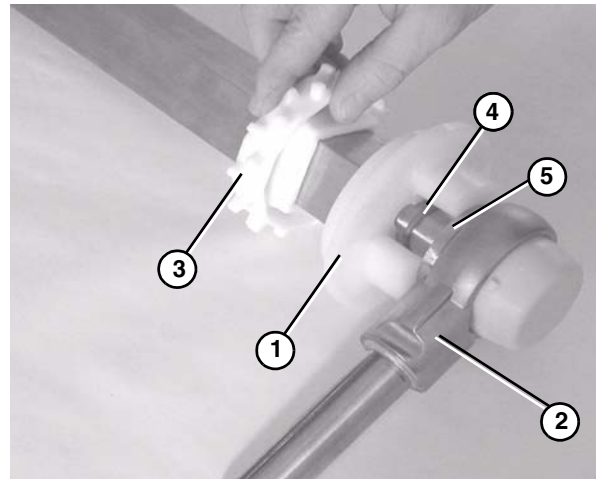

**Figure 74**
5. Use a hex wrench (**Figure 74, item 1**) to tighten the bearing shaft fasteners (**Figure 74, item 2**) to 6 N•m (54 in•lbs). Check after 24 hours of conveyor use.